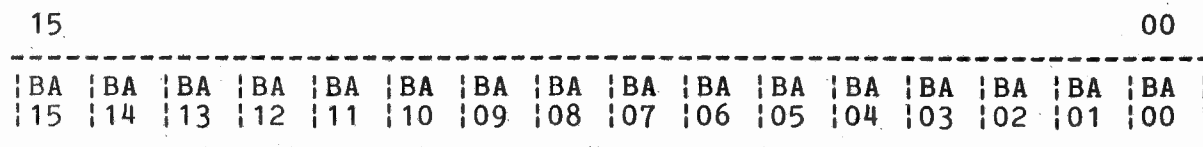

Figure 11-3 Bus Address Register (RKBA)
The RKBA register (Figure 11-3) is initially loaded with the low-order 16 bits of the Q-bus address that will reflect the main memory start location for a data transfer. With the low-order bit(0) always forced to 0, the RKBA register content is combined with high-order bits 8 and 9 of RKCS1 register (BA16,17), or from RKBAX (BA16,17,18,19,20,21,22,23) in a system with parity memory, to form a complete even-numbered word address. Following each data transfer bus cycle, the register is incremented by two to select the next even-numbered location.